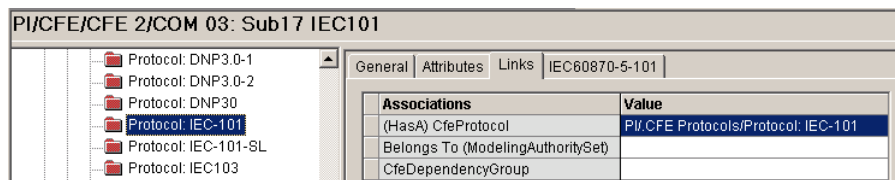

Figure 3-2.4: Linking the Protocol (Instance) to the CFE Interface (by Drag & Drop)
4. Open tab **Links** and allocate a network protocol, such as 'Protocol IEC-104' to the Association (*HasA*) *Cfe Protocol* as already demonstrated by Figure 3-2.4